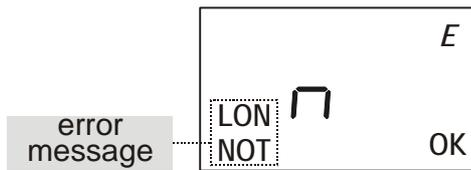

Fig. 4. Error message (no LonWorks® communication)
**NOTE:** If communication between the W7070A's neuron processor and its co-processor is interrupted, the W7070A will display an error message (see Fig. 4). This will occur e.g. when an unconfigured W7070A is powered up. To resume normal operation, set the W7070A to "configured online"